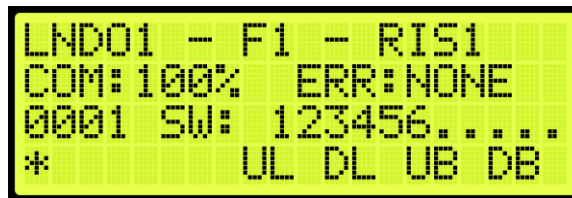

Figure 280: Hall Board Status
2. From the Hall Security menu, scroll up or down to view the floors that are set for hall security (See Figure 280).